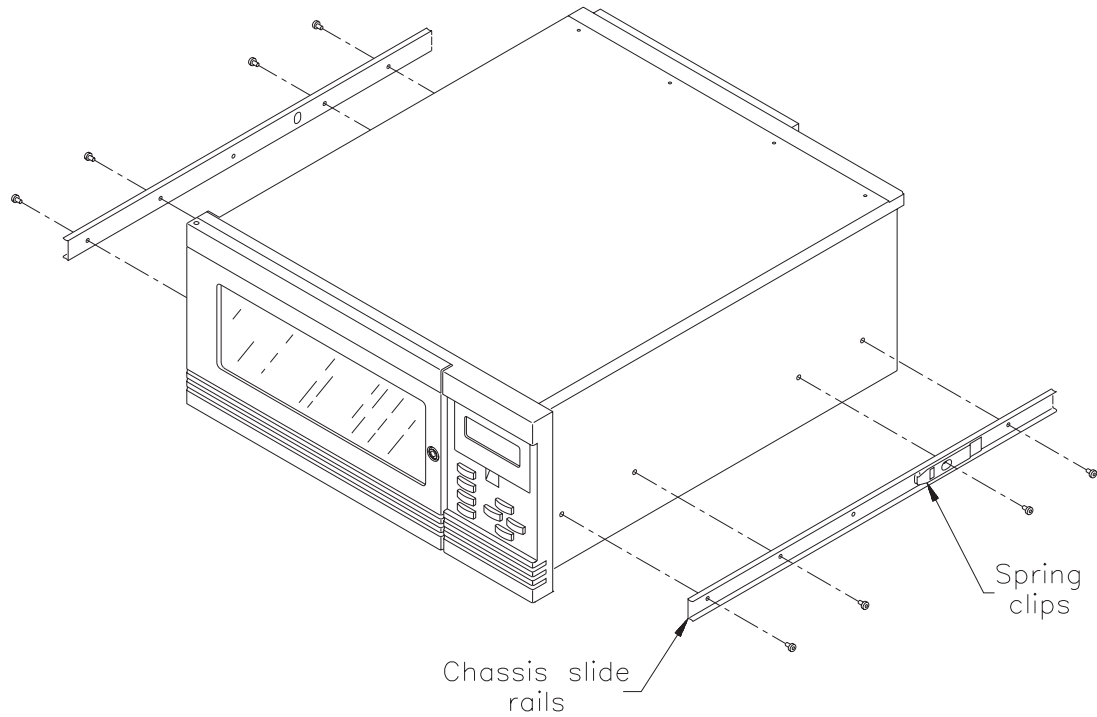

Figure 13 Installing the chassis slide rails
3. Using a T-15 TORX bit and four $8-32 \times 0.25$ screws, attach the chassis slide rails to each side of the library, as shown in Figure 13. (If two rows of screw holes are present on the sides of the library, use the lower set.) Tighten the screws to 8.0 inch-pounds (9.2 kg-cm) of torque.